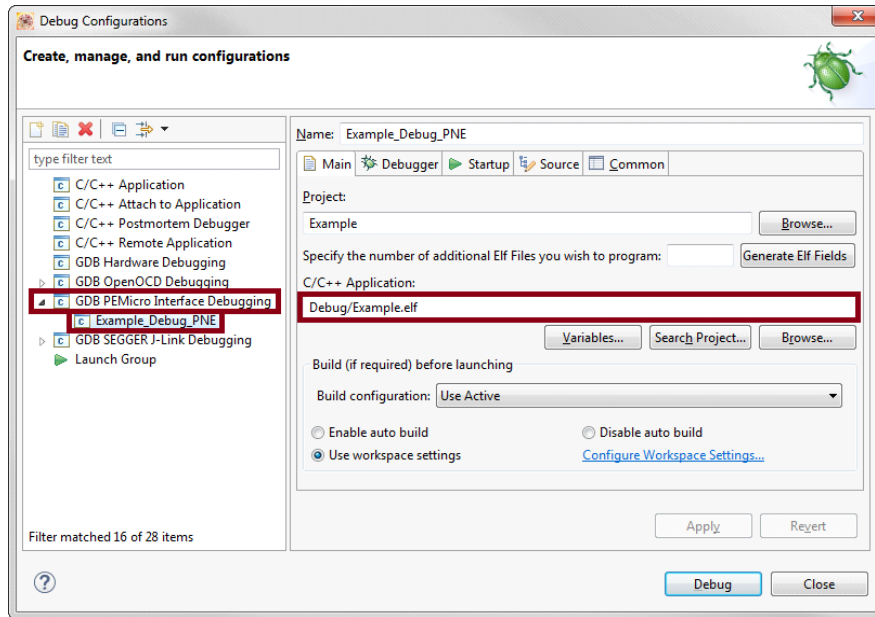

Figure 22. Downloading the Application (b)
2. In the Debug Configurations dialog box, click Example_Debug_PNE under GDB PEMicro Interface Debugging (see Figure 22).
3. Make sure that C/C++ Application contains a path to the .elf file of the project (see Figure 22).